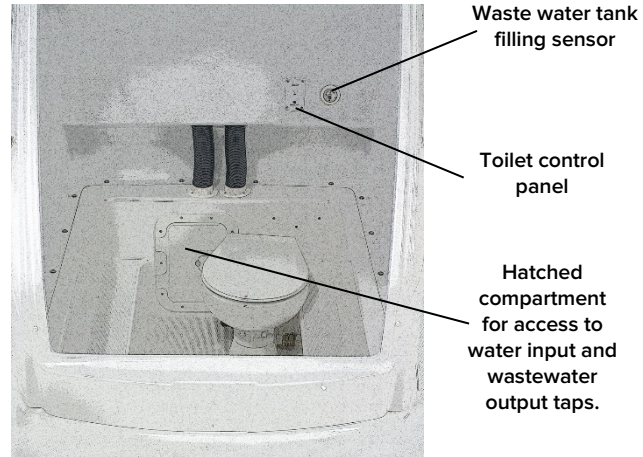
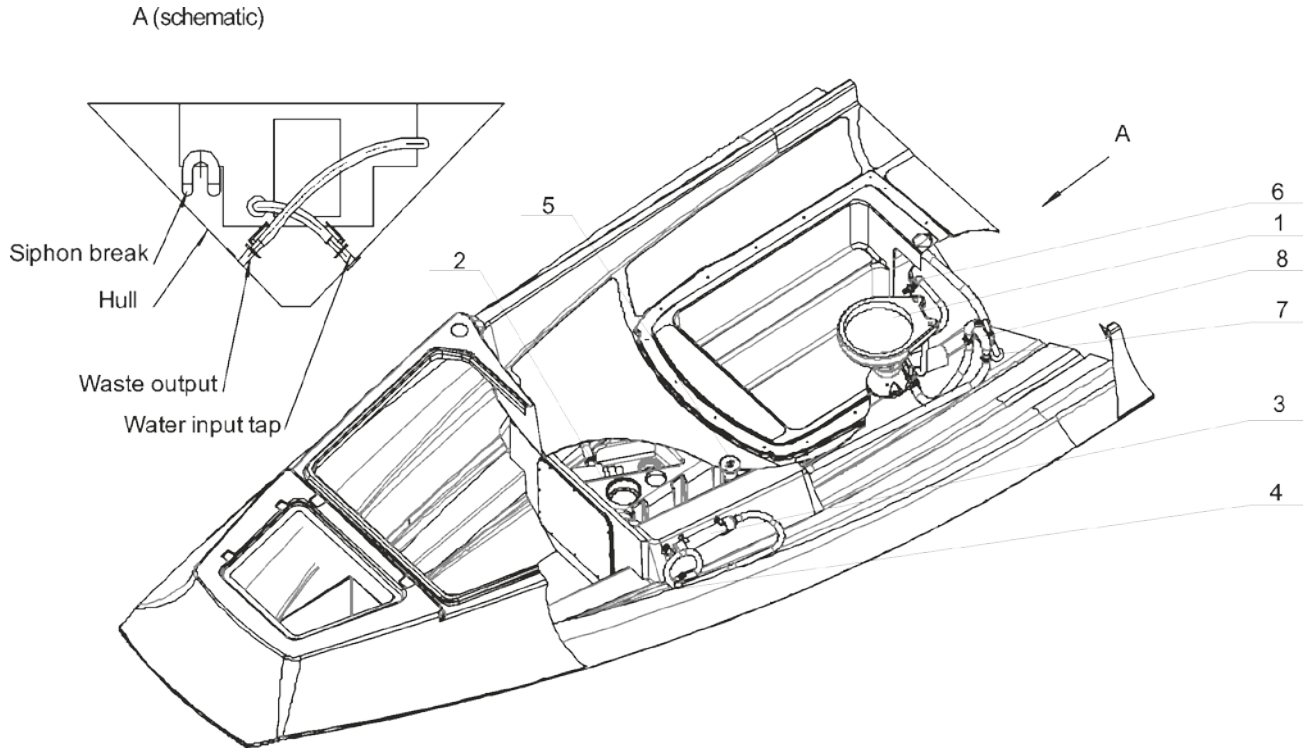

Fig. 34. Toilet.
Fig. 35. Waste water system.
Waste water system of a boat (see fig. 35 on the previous page):
Before using a toilet, you should open water input tap (fig. 35, pos. 6). If you in offshore where the discharge of biodegradable wastewater in permitted, open overboard discharge valve. (fig. 35, pos. 7). Both taps are located in the compartment behind the toilet (fig. 34).
To wash off the toilet push and release the button on the toilet control panel (fig. 34).
The filling sensor (fig. 34) of wastewater tank (fig. 35, pos. 2) is located near the toilet control panel. The discharge of wastewater tank can be done by sewage truck at a port. Connect the fitting of the receiving hose of the sewage truck with pump-out deck fitting (fig. 35, pos. 5) located on the deck, next to the steering console to do so.